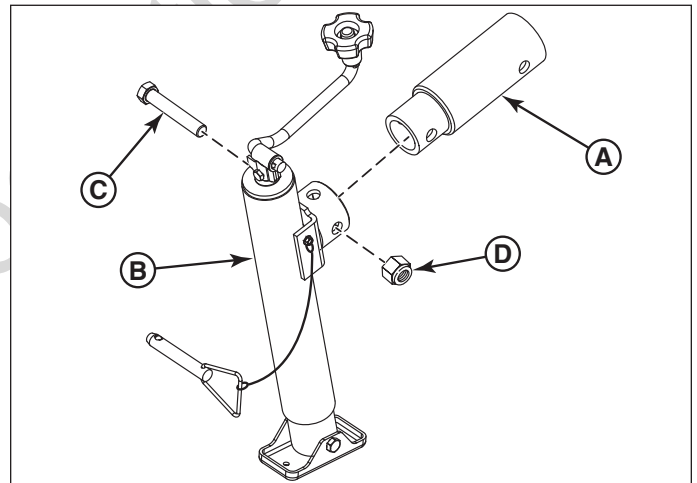

Figure 1. Installing the Extension Sleeve
2. Install the extension sleeve (A, Figure 1) onto the jack (B) and secure using the bolt (C) and nut (D).